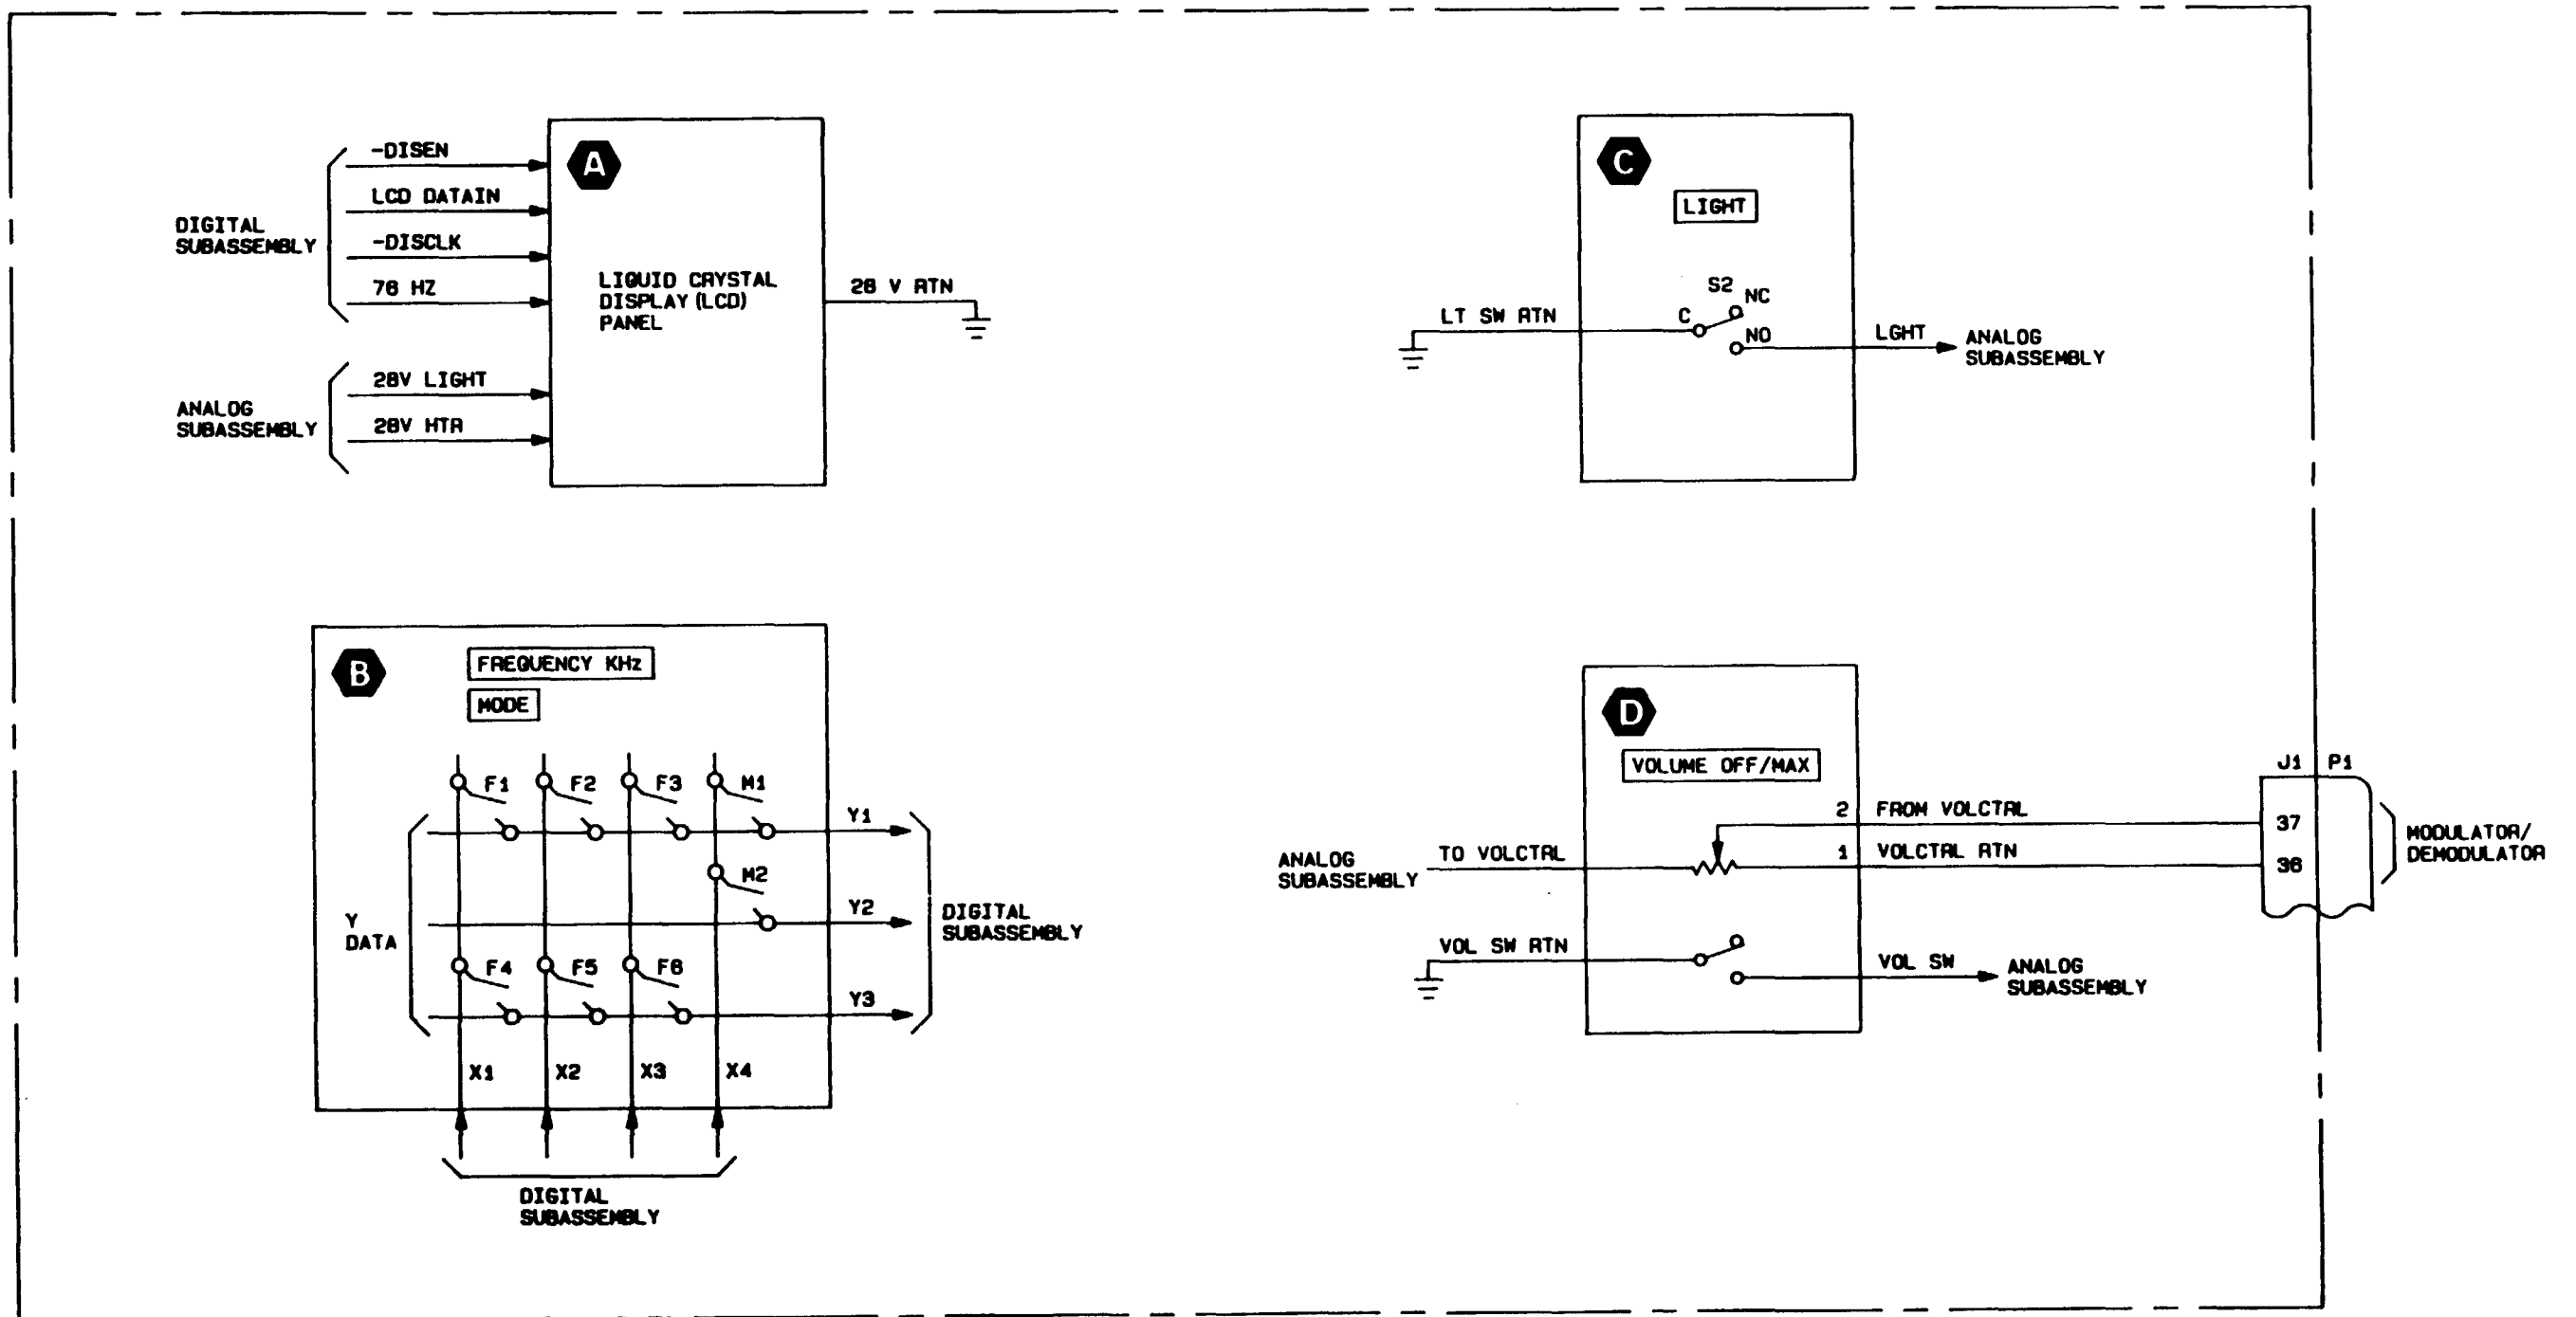

Figure 2-6. Front Panel Assembly
**GENERAL** — The electronic front panel (EFP) provides the means for the operator to control receiver/transmitter operations. The EFP consists of the front panel, control interface (CI), and audio filter assemblies.
**FRONT PANEL ASSEMBLY (1 of 2), fig 2-6**